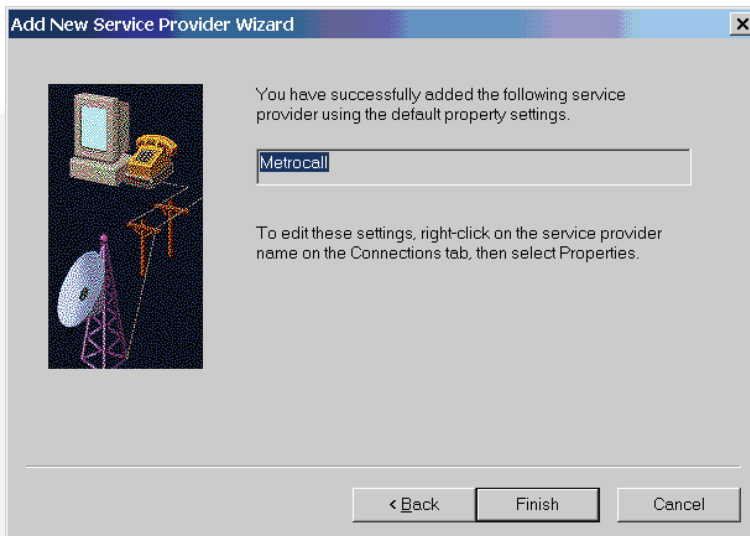

FIGURE 15-10. SERVICE PROVIDED ADDED
11. The next window is displayed to confirm that the service provider has been successfully added. Click on the **Finish** button to proceed. Figure 15-10.